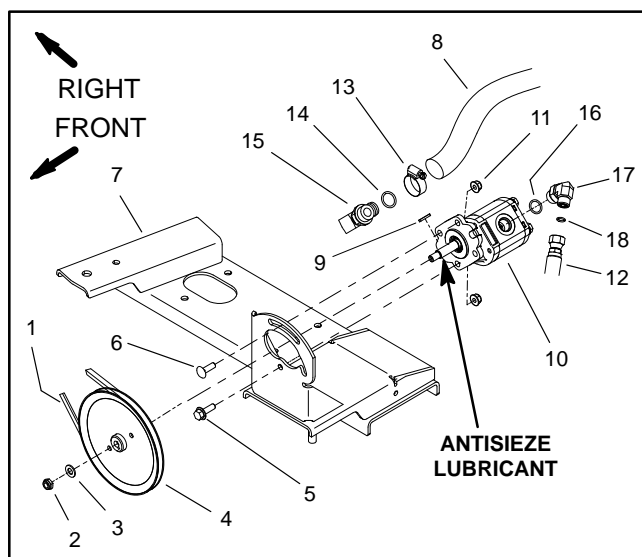

Figure 29
Removal (Fig. 29)
Installation (Fig. 29)
2. Install gear pump to mount (Fig. 29) using the following instructions: